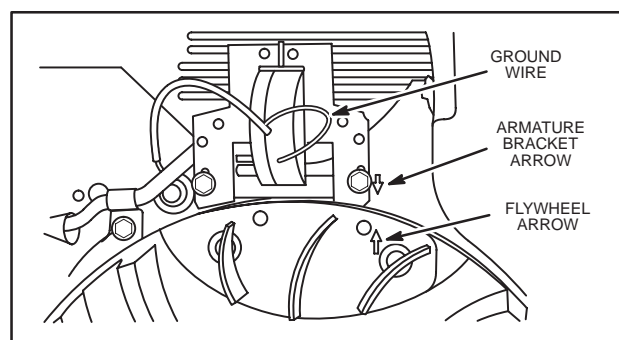

Fig. 74 – TIMING ARMATURE
6. Disconnect ignition armature ground wire from ignition armature laminations and pull wire away from laminations, Fig. 74.
7. Disconnect ignition armature ground wire from ignition armature laminations and pull wire away from laminations, Fig. 74.
8. Turn flywheel clockwise until meter shows points are closed (low ohms reading). Turn flywheel slowly clockwise until points open (high ohms reading). Arrow on flywheel should be in line with arrow on armature bracket, Fig. 74.
9. If arrows do not line up, remove flywheel without moving crankshaft. Loosen screws holding armature bracket until bracket can be moved with a slight drag. Slip flywheel back on crankshaft without moving crankshaft. Insert flywheel key. Install flywheel key and nut finger tight. Move armature bracket assembly until arrows line up, Fig. 74. Remove flywheel and tighten armature bracket screws.